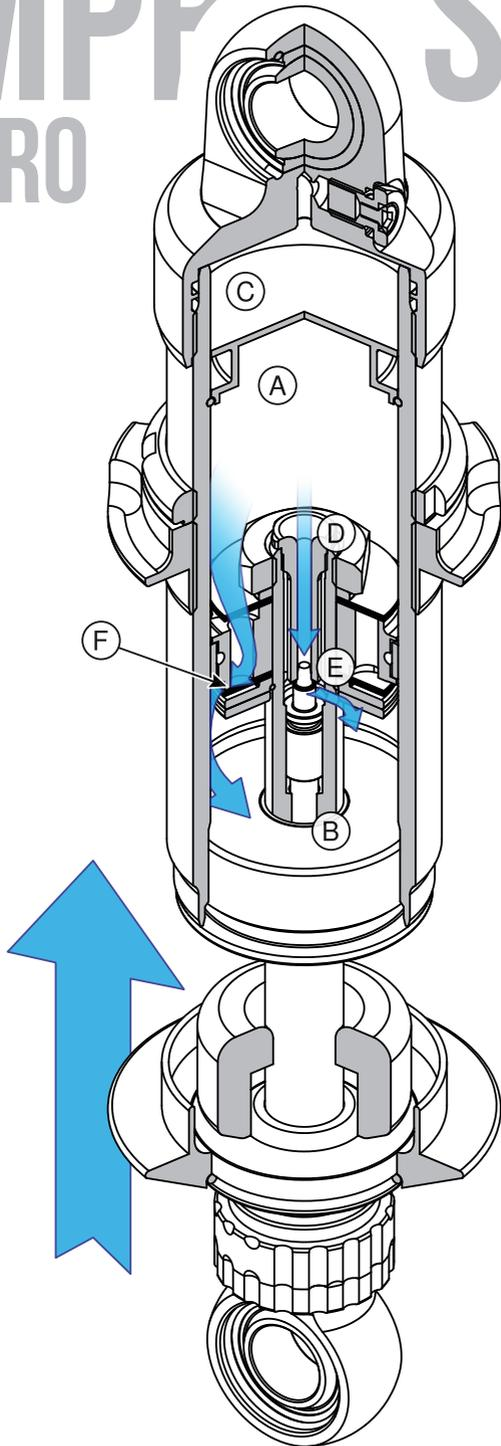
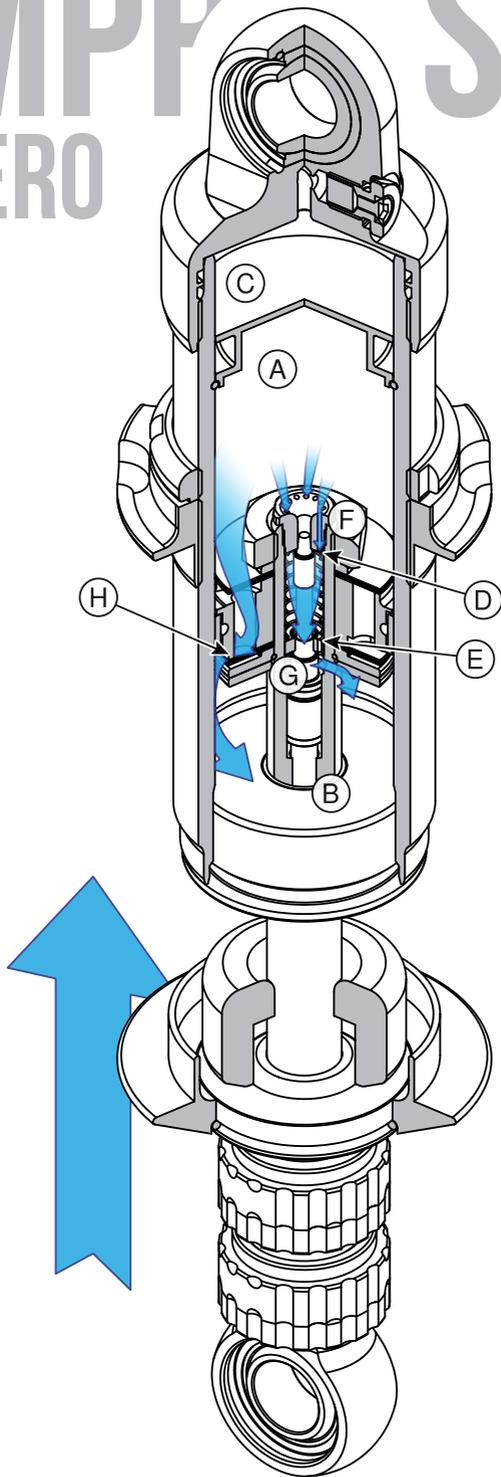

FIG. 2-3
FIG. 2-5
The inside of the shock absorber can be divided into three chambers: the compression chamber (Fig. 2-1.A, Fig. 2-3.A, Fig. 2-5.A), the rebound chamber (Fig. 1.B, Fig. 2-3.B, Fig. 2-5.B) and the gas chamber (Fig. 2-1.C, Fig. 2-3.C, Fig. 2-5.C).
Oil flows through the jet (Fig. 2-3.D) and around the needle (Fig. 2-3.E). It enters the rebound chamber via cross-drillings in the shaft.
i. Two.Zero: Negative pressure inside the rebound chamber causes the RD check shim to open (Fig. 2-5.D) and the CD check shim to close (Fig. 2-5.E). Oil flows through drillings in the perimeter of the RD jet (Fig. 2-5.F), bypassing the RD needle. A restriction occurs where the oil passes between the CD needle and
its jet (Fig. 2-5.G). The oil enters the rebound chamber via cross-drillings in the shaft.
Oil flows around the rebound-damping valve stack and through the piston. A build up of pressure on the back of the compression-damping valve stack causes the valve stack to deflect (Fig. 2-1.F, Fig. 2-3.F, Fig. 2-5.H) and the oil enters the rebound chamber.